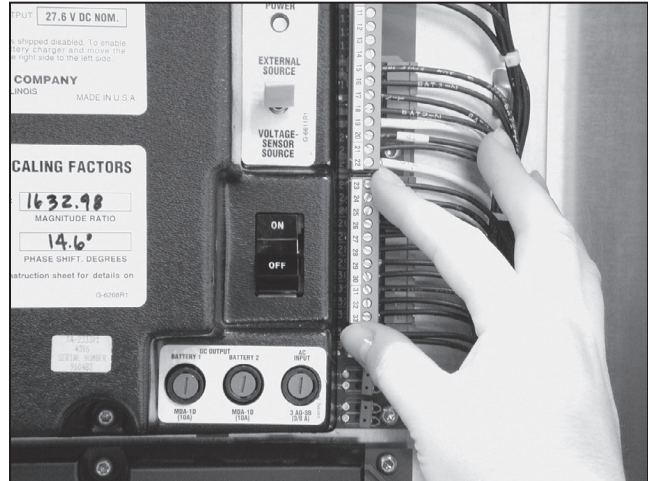

Figure 9. Remove the 11-pin terminal strip.
- STEP 7.** Carefully remove the 11-pin and 22-pin terminal strips from the battery charger board. See Figures 9 and 10.